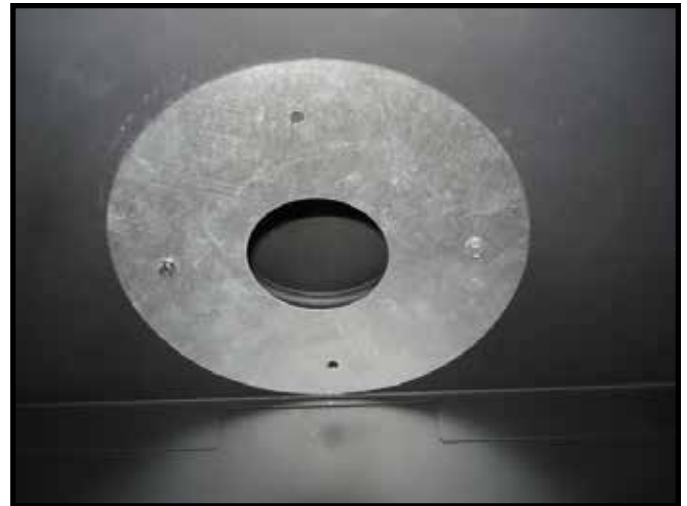

Figure 7.10 Exhaust Restrictor Installation
3. Use (2) $\frac{1}{2}$ " self-piercing screws to secure vent restrictor to firebox heat shield. See Figure 7.10.